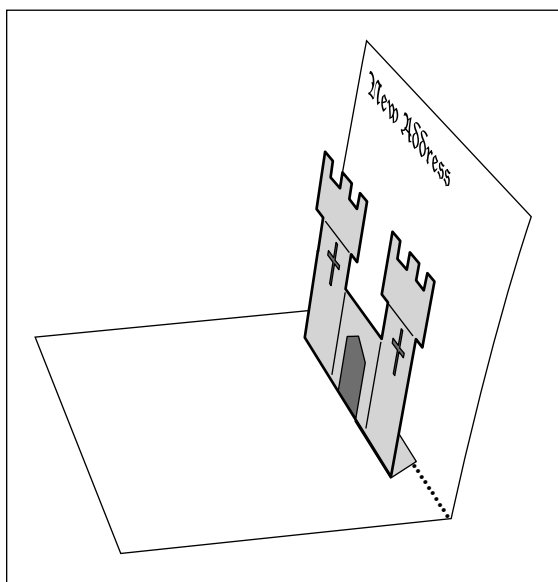

Figure 6-8:
4. Glue the picture tab down so that it touches the crease in the center of the open greeting card (see Figure 6-8).